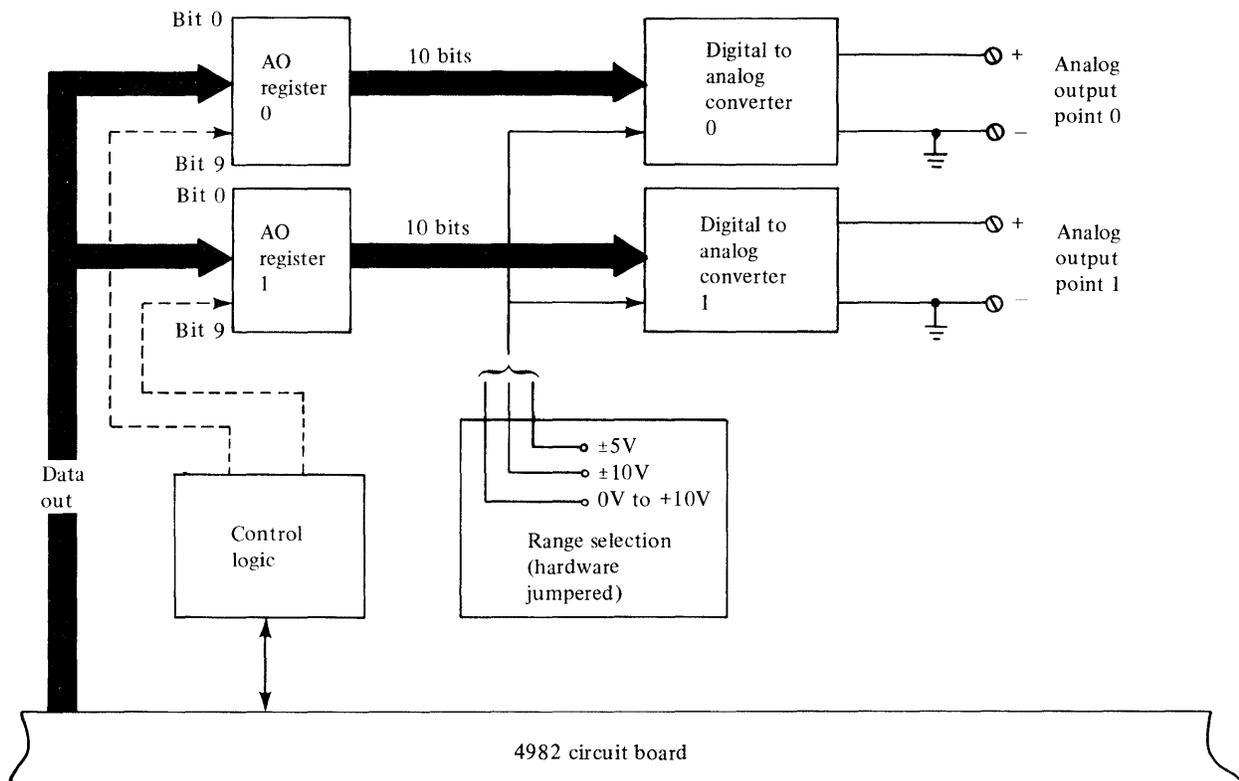

Figure 1-6. AO feature
The analog output (AO) feature (Figure 1-6) uses a digital-to-analog converter to convert a binary digital value to an analog output voltage of the corresponding value. This feature provides two points of nonisolated analog output. Each point has three selectable output voltage ranges. The ranges are selected by jumper plugs on the feature card. The range is selected when the feature is ordered, and may be changed by the user. User connections to each point are made to screw terminals.